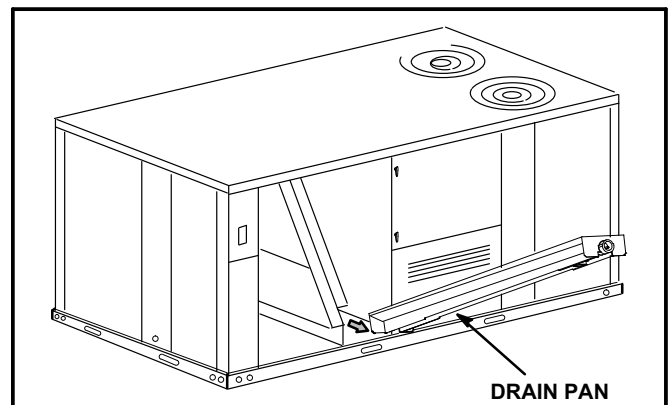

FIGURE 7
- 5- Lift front edge of the drain pan (to clear bottom drain plug) and slide drain pan out of unit. See figure 7.